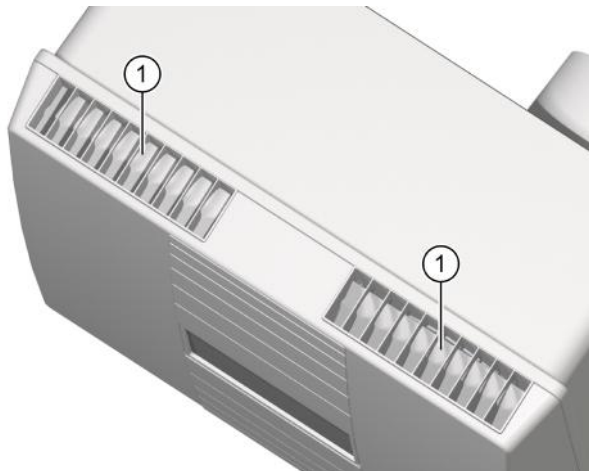
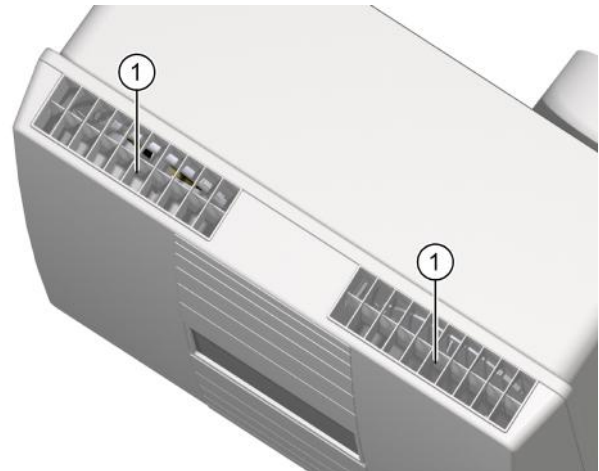

Fig. 15: Air flaps closed
Fig. 16: Air flaps open
- ▶ Check the position of the air flaps (see Fig. 15 and Fig. 16) on the extract air and supply air openings.
- Both air flaps will be closed if the ventilation unit is switched off or without power (see item 1 in Fig. 15).
- Both air flaps open when you switch on (see item 1 in Fig. 16).